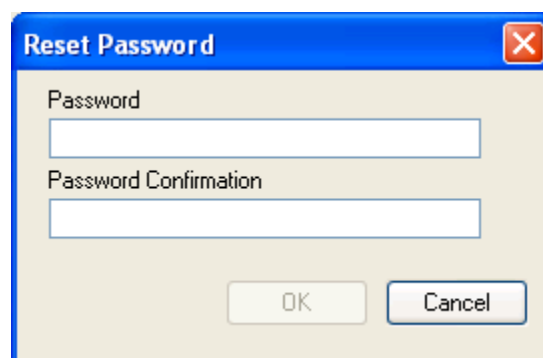

Figure 56 - Reset Password Window
1. Click on the **Reset Password** button. The **Reset Password** window (Figure 56) appears.